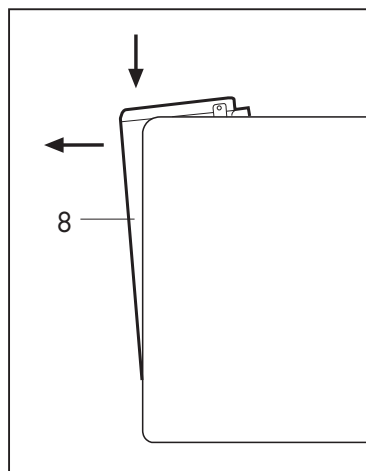

Fig. 1
- Extract the tank (8) by pressing down with your hand and pushing it out of the machine body. **(Fig.1)**